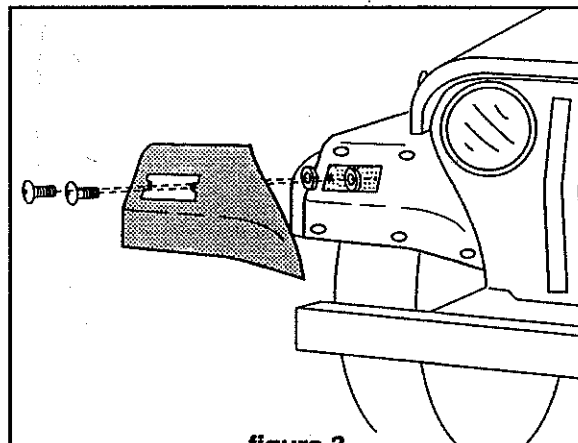

figure 3
5. Attach fender gaurd in place using the provided screws and spacers. Put the screw through the hole in the fender gaurd, through the spacer and into the mounting hole of the turn signal light. As shown in **figure 3**.